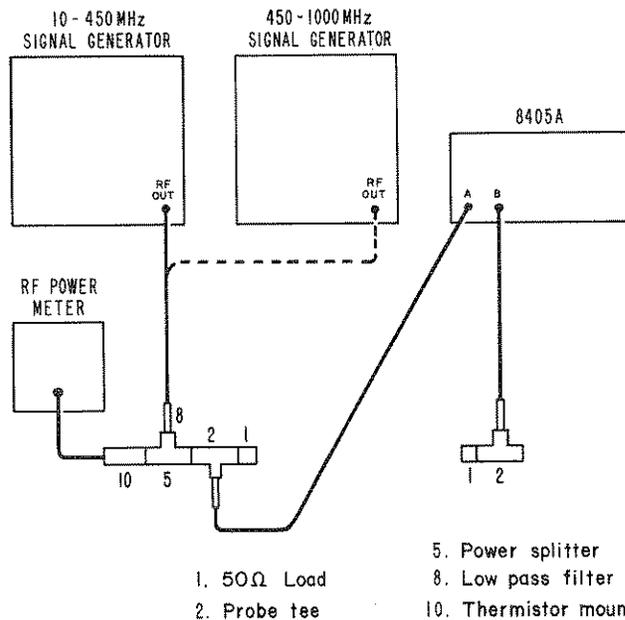

Figure 2J. Setup for RF Gain and Delay Line Adjustments
- a. Connect test equipment as shown in Figure 2J using the 10 - 450 MHz Signal Generator.
- a. Using 1000 MHz Signal Generator, connect test equipment as shown in Figure 2J.
- g. Place Channel A Probe back in other Probe Tee and set up equipment as shown in Figure 2J.
a. Connect test equipment as shown in Figure 2J using the 10 - 100 MHz Signal Generator. Connect Channel B probe in place of Thermistor Mount.